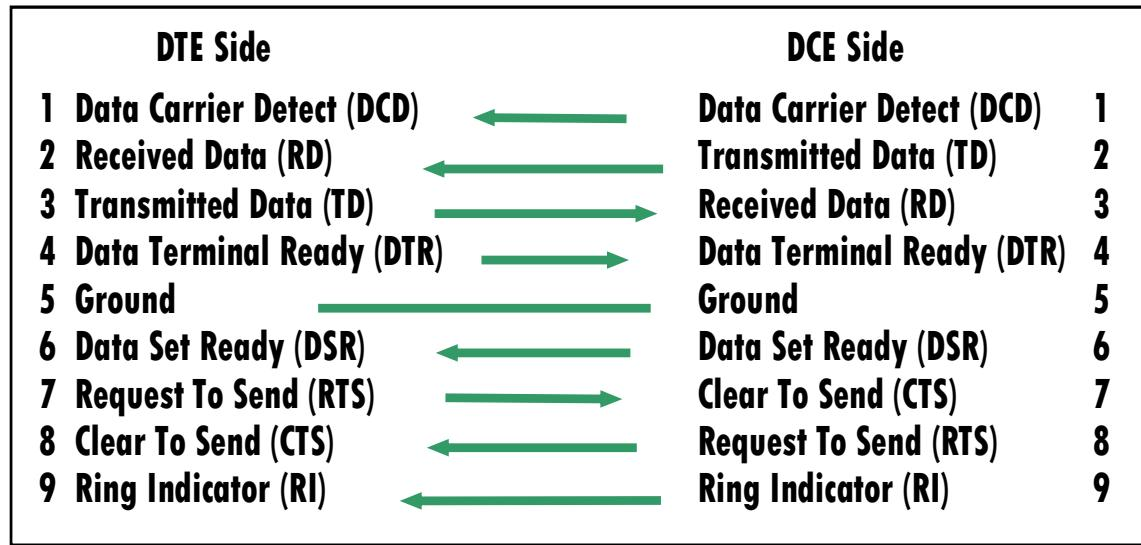

Figure 8.64 The modem flow control signals used in UART communications.
- A full group of modem flow control signals used for **DTE** and **DCE** are shown in Figure 8.64.
- In UART **module 1**, only two signals, **U1CTS** and **U1RTS**, are used and they are defined differently based the roles of these signals. When used as a **DTE**, the modem flow control signals are defined as (see Figure 8.64):